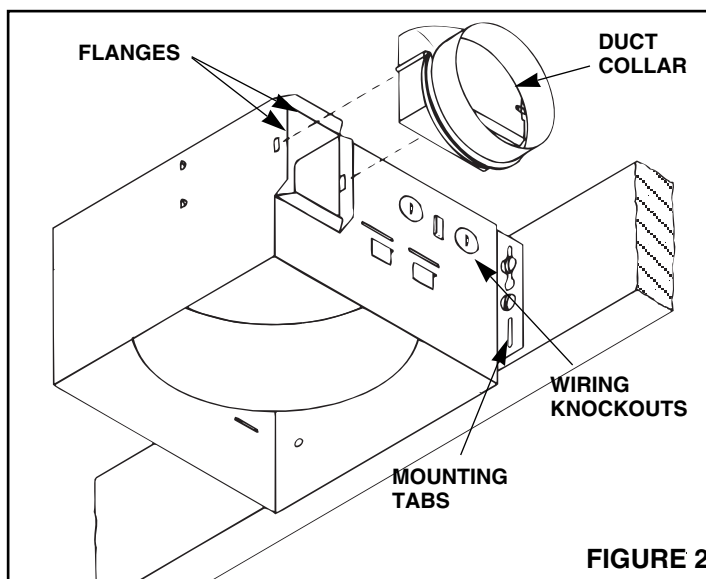

FIGURE 2
Refer to Figure 2.
- Refer to Figure 2. Place duct collar over flanges at discharge opening of fan. Secure collar by snapping tabs into slots in flanges.